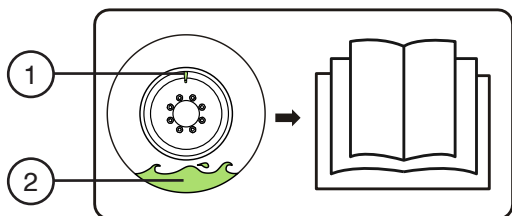

Figure 3-3. Tire Sealant Label
- When depressurizing, inflating or checking tire pressure, ensure that the valve stem is at the top to prevent sealant from entering the stem (refer to Figure 3-3).